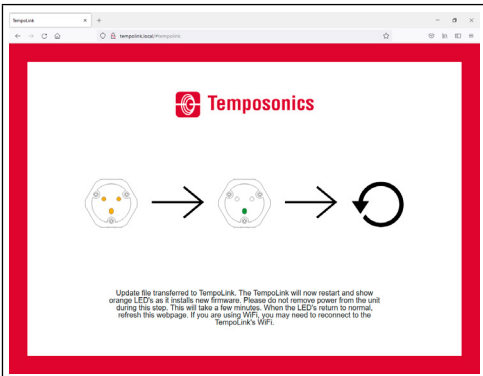

Fig. 21: Screen during firmware update
2. Installing the firmware. The LEDs on the TempoLink® smart assistant lights up orange and the graphic shown in Fig. 21 is displayed.